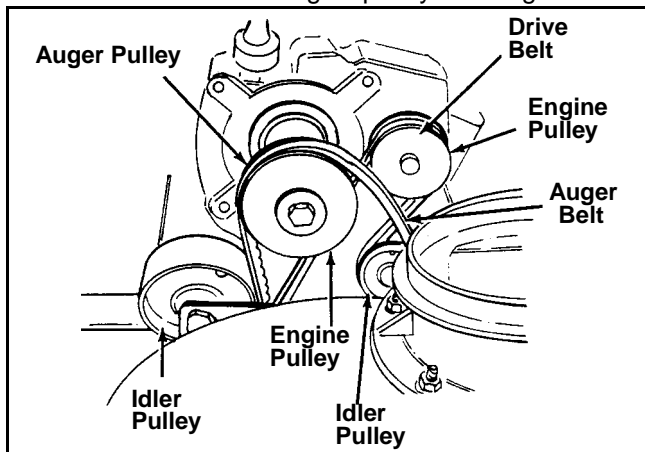

Figure 17
- Roll the belt off the engine pulley. See Figure 17.
- Pull idler pulley up, and lift belt off engine pulley and friction wheel disc. See Figure 17.